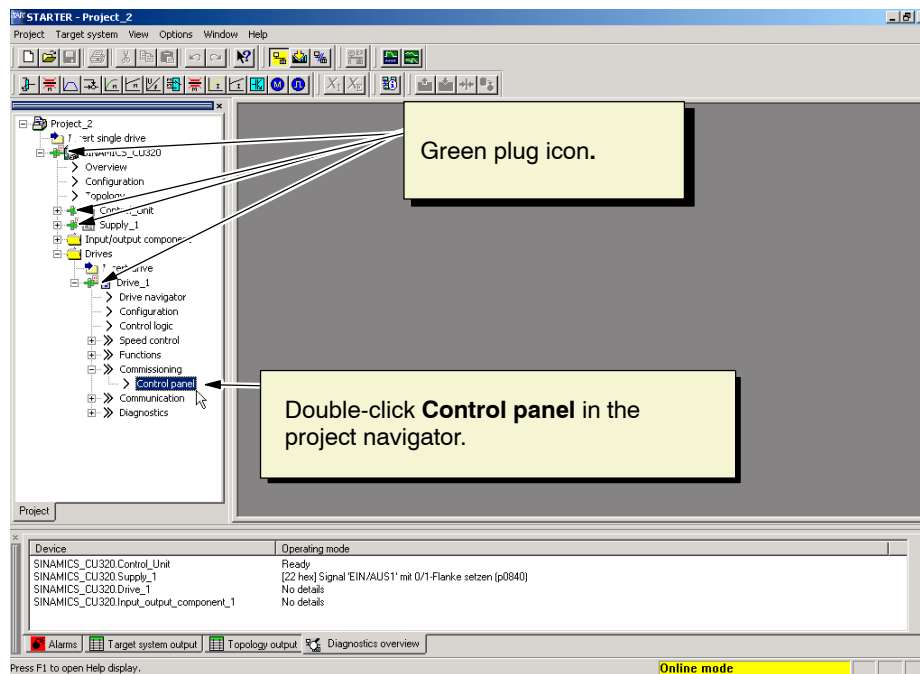

Fig. 4-5 Control panel
Once you have established a connection with the target system and loaded the project to the target system, a green plug icon appears in front of the drive unit and other configured components in the project navigator. This indicates that the project data in STARTER and the target system is consistent (see Fig. 4-5).
1. Double-click **Control panel** in the project navigator under **Drive_1 > Commissioning** (see Fig. 4-5).